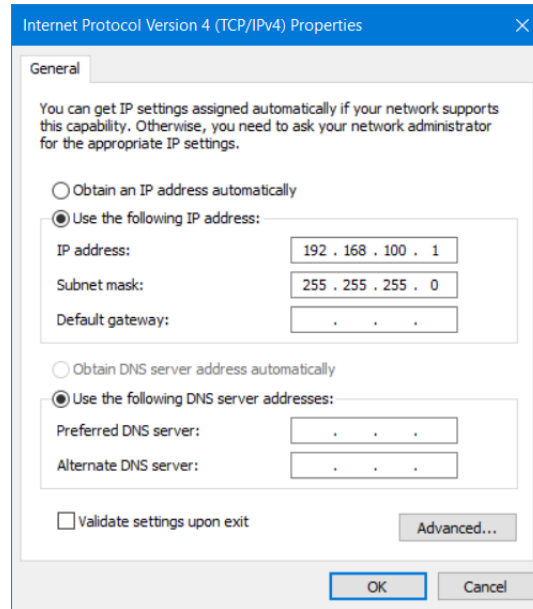

Figure B-5 Internet Protocol Version 4 (TCP/IPv4) Window
STEP 7: Enter the *IP Address* as 192.168.100.1 and the *Subnet mask* as 255.255.255.0 (Figure B-5).